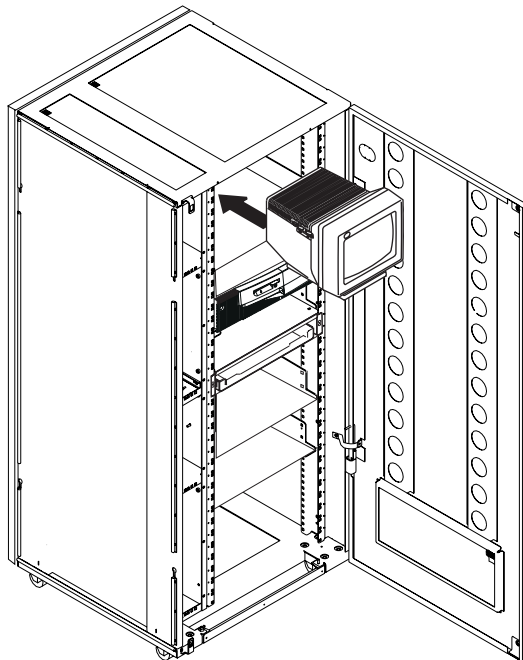

Figure 1-8. Installing the Display in the Controller Expansion (Front Side)
14. ____ Slide the display screen on the top of the controller expansion (refer to Figure 1-8).